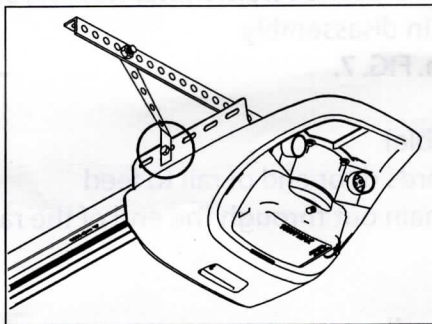

FIG. 4
8. Remove motor head and rail assembly (FIGs. 4 & 5) from mounting brackets and set on a clean work surface or floor.